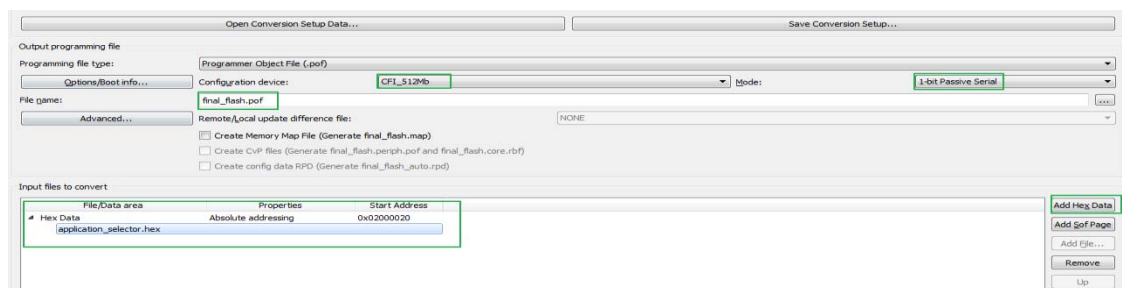

Figure 7-7 Generate The Final_flash Pof
- In Quartus convert programming file tool window, set the options as **Figure 7-7**.